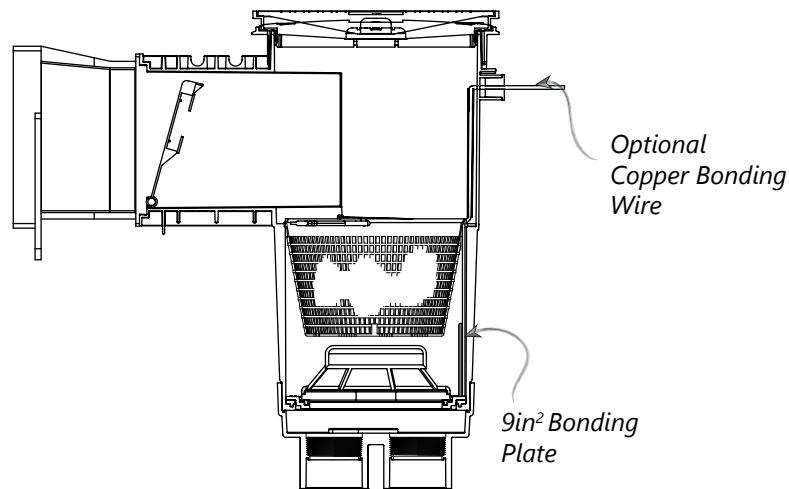

FIGURE 5: OPTIONAL WATER BONDING
5. WATER BONDING - POOL DEFENDER® MODELS ONLY (FIG 5)
- As required in NEC section 680.26(C) the bonding device: